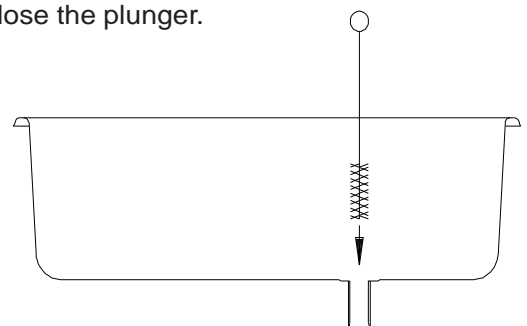

Figure 8-1 Sanitize hopper and its components
4. Pour sanitizing solution into the hopper pan. Using a clean brush, scrub the hopper walls, the mix feed port from the hopper to the cylinder, the inside of the mix feed tube and adapter (see figure 8-1), and the inside of the hopper cover.